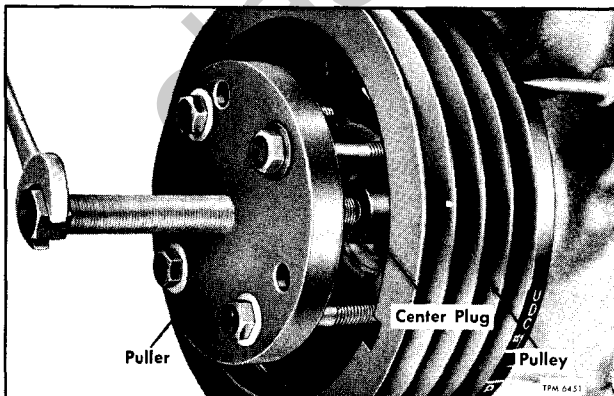

Figure 13—Crankshaft Pulley Removal (Typical)
When it is necessary to replace a valve spring and/or seals on valve stems, the special tools shown in figure 13 may be used to facilitate the operation without removing the cylinder head. Proceed in following manner to replace valve spring and retaining parts.
removed. The special tool typically illustrated in figure 13 must be used to start the pulley retaining cone off crankshaft.
3. Assemble puller and center plug in manner shown in figure 13, then turn puller screw to remove pulley or hub from crankshaft.